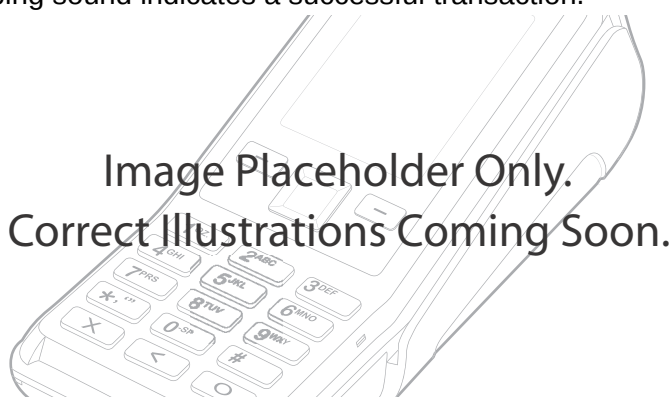

Figure 17 Using a CTLS Card
- 1 Gently tap the card onto or hold the card (within 4 cm) against the surface of the RFID canopy (see Figure 17).